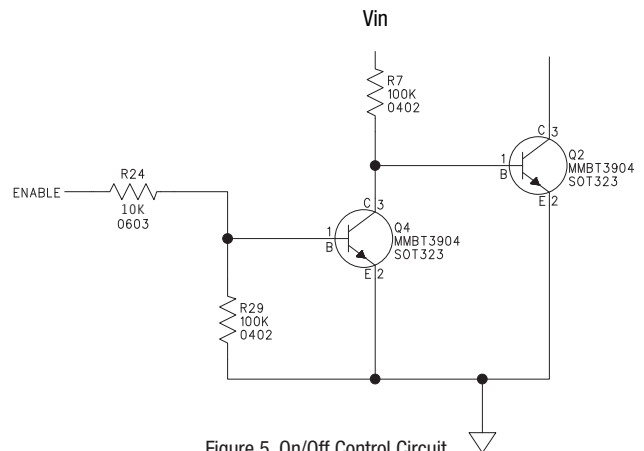

Figure 5. On/Off Control Circuit
**External Enable On/Off Control (see figure 5)**